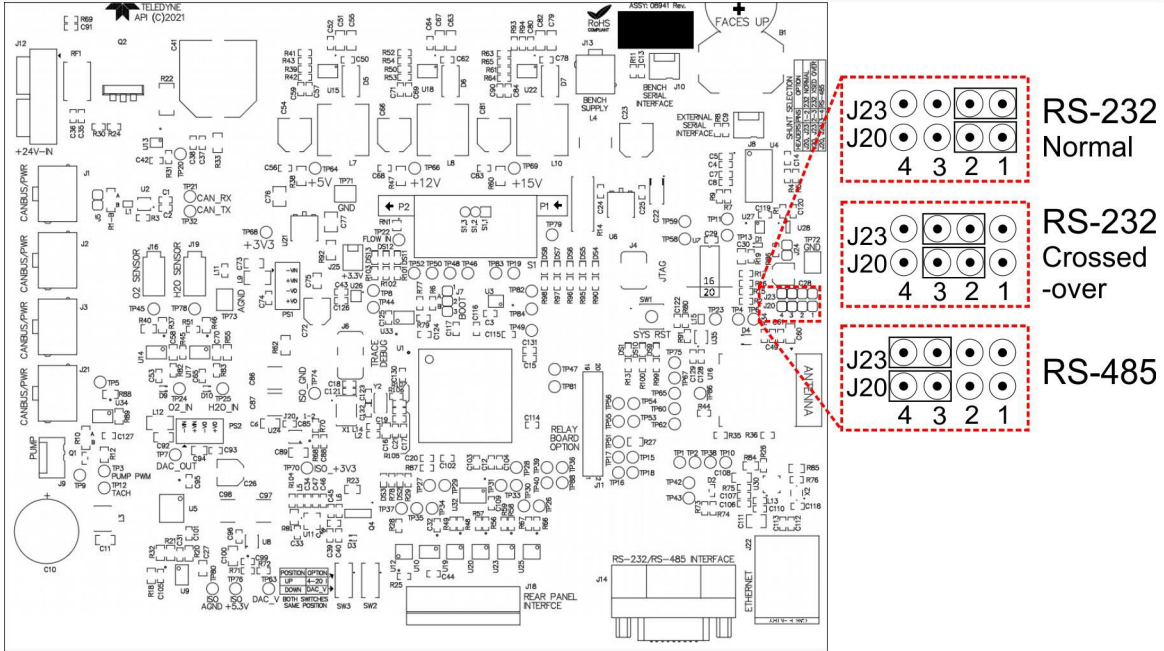

Figure 6-1. RS-232/RS-485 Signal Configurations
To change or verify the configuration of the serial COM, refer to Figure 6-1 while performing the following instructions, noting that early revision mainboards may have jumpers located near the serial cable connector:
4. Set the desired COM as shown in Figure 6-1 where:
If there is a problem with the connection, it's possible that the pinout signals on the RS-232 connector need to be changed to accommodate the serial cable pins. In that case, refer to Figure 6-1 to make the adjustments for 232 Crossed-over by setting the jumper pins 2-3 on both J20 and J23.